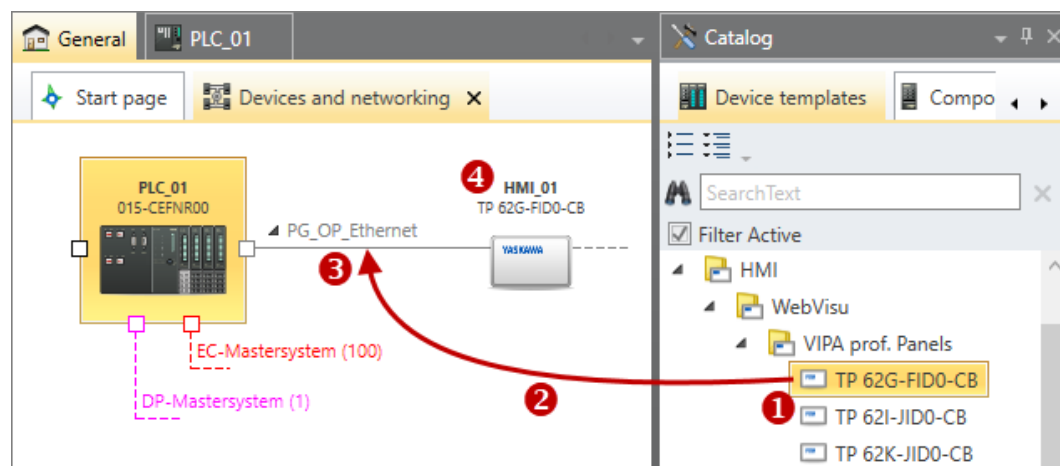

Fig. 59: Adding HMI device via "Catalog"
- **Catalog:** Drag the desired HMI device from the 'Device templates' register of the catalog ( ↪ *Chap. 4.10 'Catalog' page 31*) to the connecting line "PG\_OP\_Ethernet" in the 'Devices and networking' editor. Fig. 59